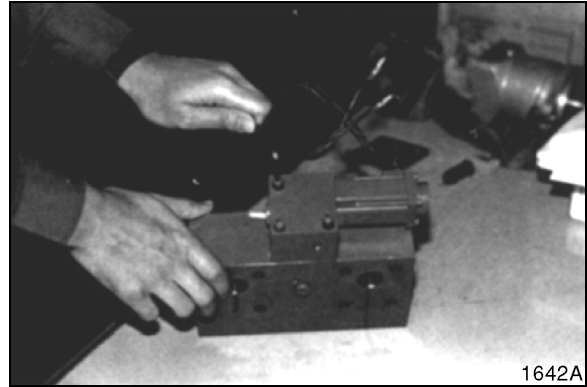

Figure 49
4. Remove hex bolts and detach cover. See Figure 49.